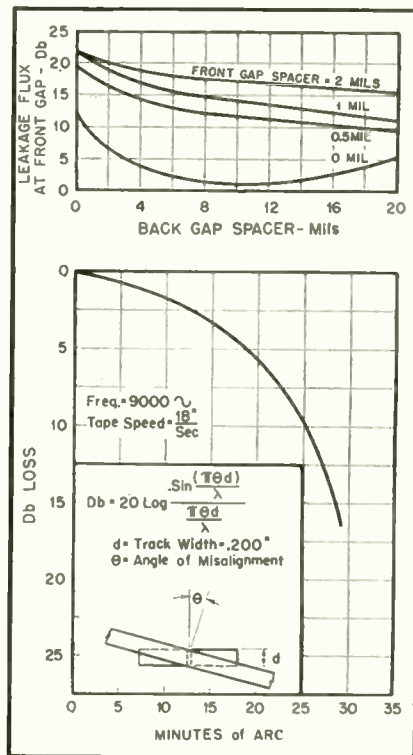

Fig. 11. (A, above) Leakage flux at front gap as a function of back-gap spacer. (B, below) Reduction in output as a function of the angle of misalignment.
Figure 11(A) shows the leakage flux at the front gap of a magnetic recording head as a function of the thickness of the back-gap spacer: the curves were obtained for different front-gap spacers, maintaining constant current through the head for all measurements. It is seen that the leakage flux decreases with increasing thickness of back-gap spacer, and that it increases with increasing thickness of frontal spacer. The head with the frontal butt joint represents, within the limits considered, an anomaly in that the leakage flux increases for very thick back spacers.
To avoid high-frequency losses, it is important that the gap of the reproducing head, in respect to the sound-track, be in the same position as the gap of the recording head was when the recording was made. Of course, if the same head is used for both recording and reproducing, no misalignment losses are suffered. Figure 11 shows the db reduction in output as a function of θ , the angle of misalignment, when the tape speed is 18 in. per second and the sound-track width is .200 in. The figure also gives the general formula for calculating the db loss for any wavelength, λ , and angle of misalignment, θ .